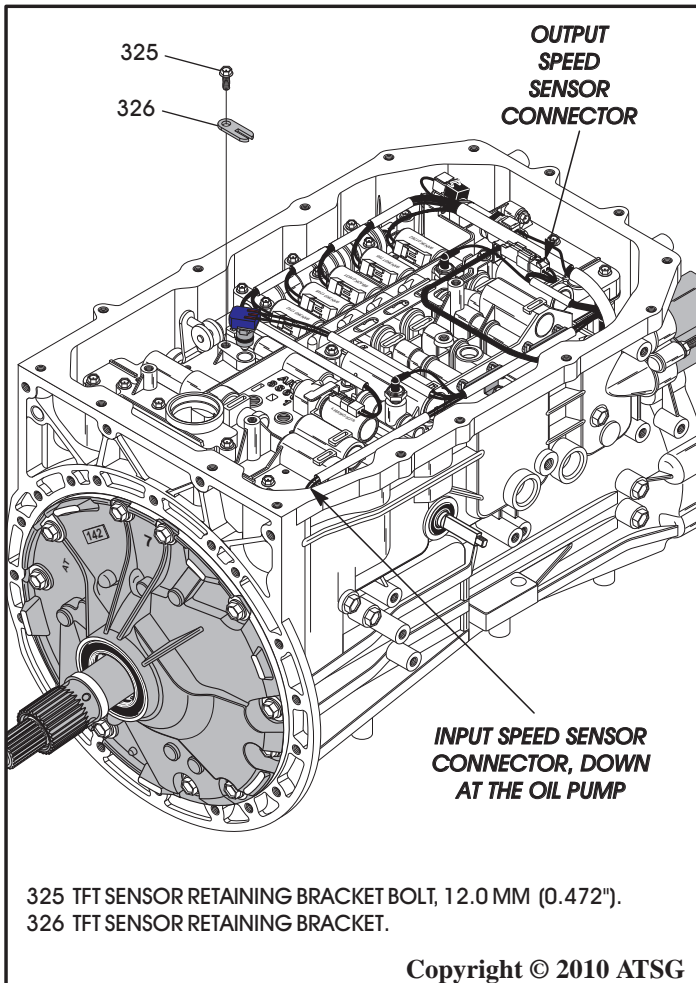

Figure 47
18. Remove the TFT sensor retaining bracket bolt and remove the sensor from valve body bore, as shown in Figure 47.
19. Disconnect all solenoid connectors, both switch connectors (if used) and White OSS connector, as shown in Figure 47.
20. Disconnect Yellow connector from ISS located on the oil pump, as shown in Figure 47.